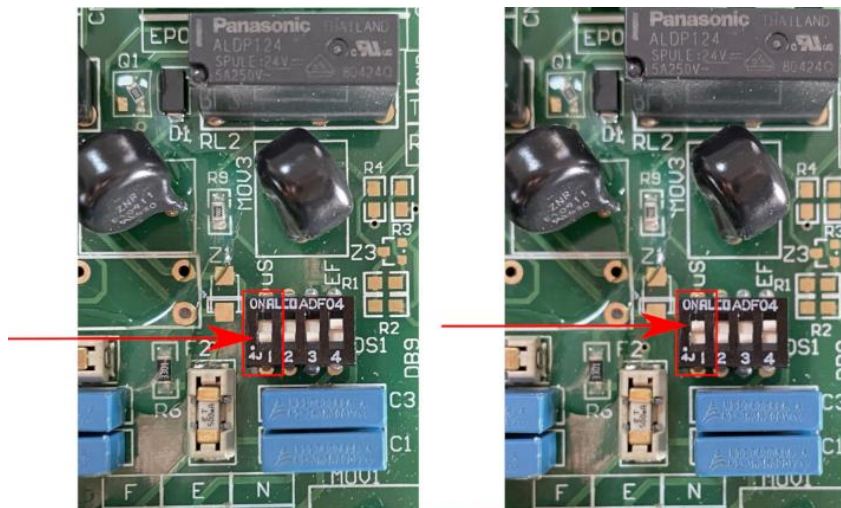

Figure 28 – uSW function
Note: If there is no uSW function in the socket, to maintain the Automatic Start Up you have to switch ON position 1 of dip switch DS1 at PCB MVA EF see Figure 28 and Annex II – **Components**, for PCB location (18). If there is no EF interlock in the socket/plug the Automatic start up mode is not possible.